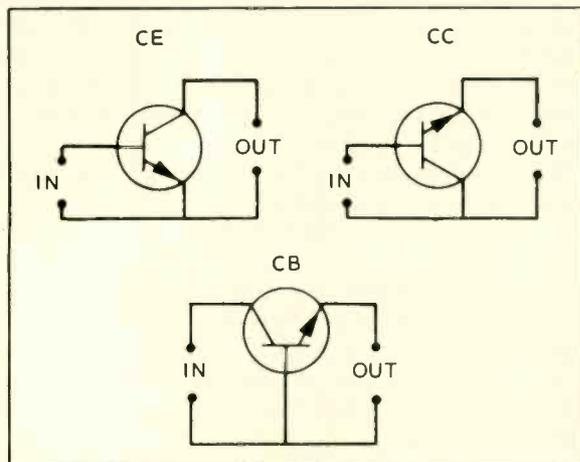

Fig. 3—Schematics of the three basic transistor configurations.
resulting in the three basic configurations—common emitter (CE), common collector (CC) and common base (CB) diagrammed in Fig. 3. Most amplifying transistors are CE-connected, yielding an input-output current gain of 20 and more.